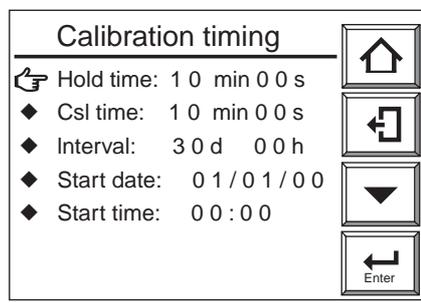

Figure 9.7 “Calibration Timing” Display
- (1) Select the “Calibration timing” display. A panel display as shown in Figure 9.7 appears.
- (2) Select each item for the calibration to display the numeric-data entry display. Enter the desired numeric values for the calibration.